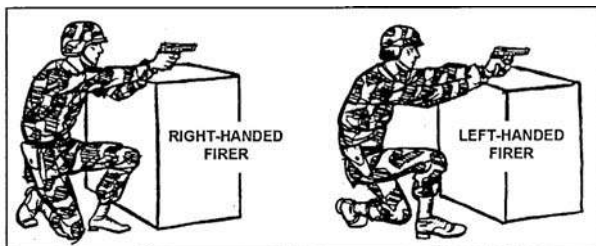

Figure 071-004-0006-8. Kneeling position
d. Standing-without-support position (figure 071-004-0006-9). To assume this position—
(1) Face the target.
(2) Place your feet at a comfortable distance apart.
(3) Wrap your nonfiring hand around the fist or wrist of your firing hand. Lock the wrist and elbow of your firing arm toward the target.
(4) Keep your body straight.